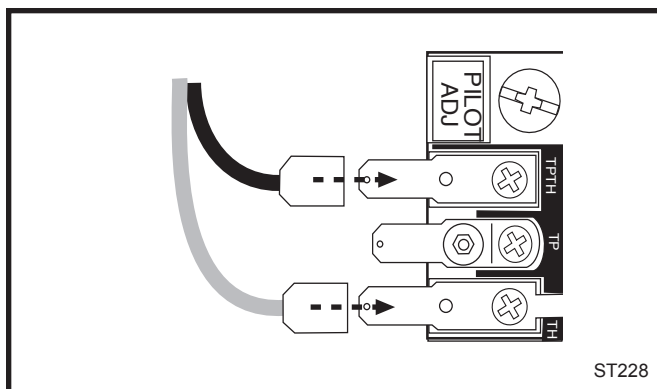

Fig. 53 Attach switch wires to valve.
3. Attach wires to valve terminals. (Fig. 53)
2. Connect the thermostat wires to the valve. (Fig. 53)